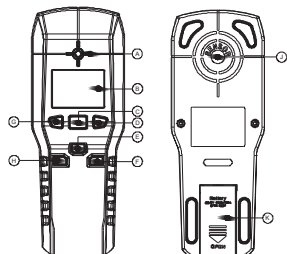

Figure 1
- Press the ON key (H key in Figure 1), and press the AC key to switch to the mode of AC detection.